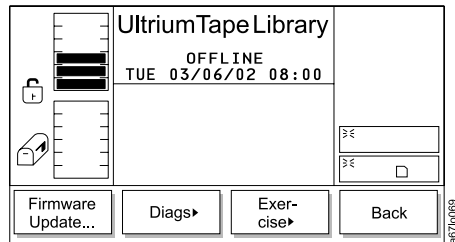

Figure 290. Library Submenu
3. Press the button below the **Library** softkey. The Library Submenu displays (see Figure 290 on page 203).